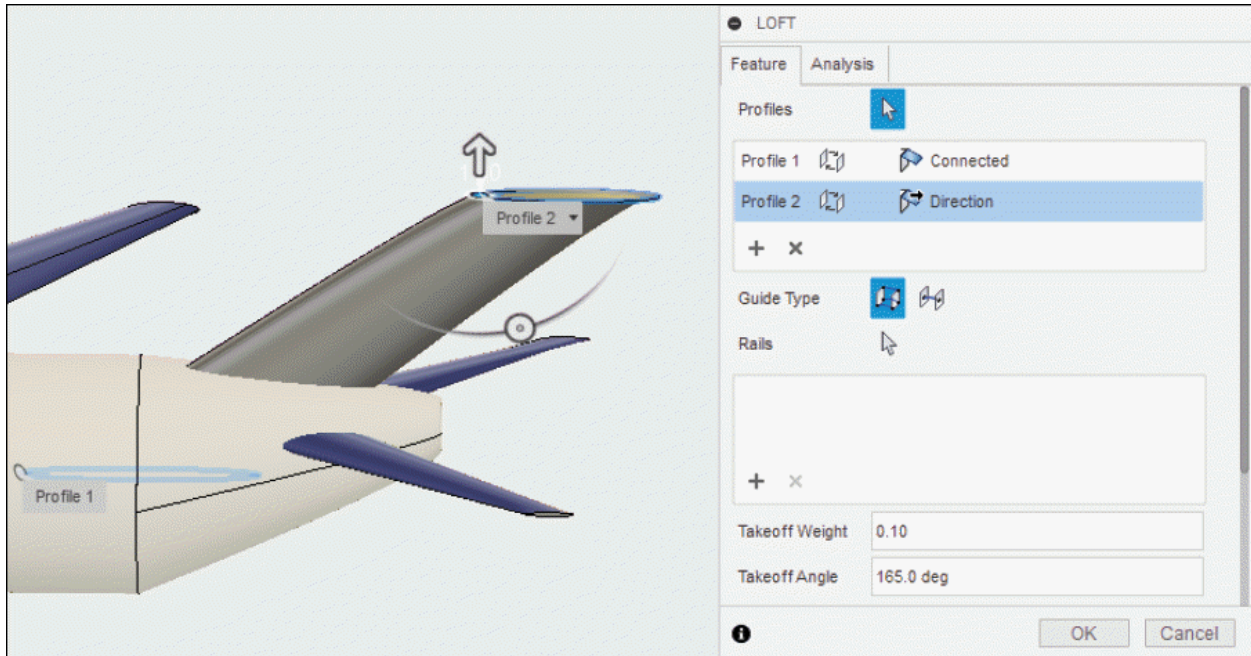

Figure-60. Applying Loft feature
- Click on **Loft** tool from **CREATE** drop-down and select the recently created sketch under **Profiles** section; refer to Figure-60.